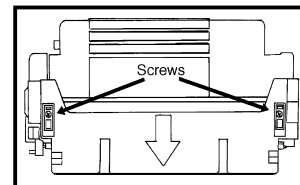

Figure 1
- Remove the two phillips head screws located on each side on the top of the cartridge (Fig. 1).